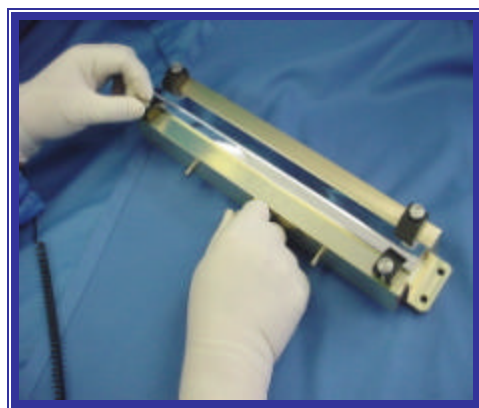

Figure 7a & 7b: Reflective Film & CDE (AI CDE shown) Clamped, Aligned & Square with Wrapping Fixture
- 3) Place a molded VM2000 film and a bonded CDE into the crystal wrapping fixture. Insert the bonded CDE into the fixture with the inscribed fiducial "V" on the top surface. In this orientation, the wire bundle will leave each PDA in the upward direction, away from the base of the wrapping fixture, and the VM2000 seam to be taped in Step 8) will be on the V face of the crystal. Square the CDE and its wrap against the vertical standoff as shown in Figure 7a & 7b. Adjust the wrap as necessary until all the CDE surfaces (including the four chamfers) are aligned correctly with the same respective surfaces on the molded film.
- 4) Turn the knob clockwise until the adjustable front plate rests against the soft bumper and its inside surface gently cradles the CDE front surface. Guide the formed VM2000 as necessary so that reflective film is clamped correctly against the crystal's parallel surface (See Figure 7a). Be sure no wrinkles, crinkles or folds made in the film's surface.